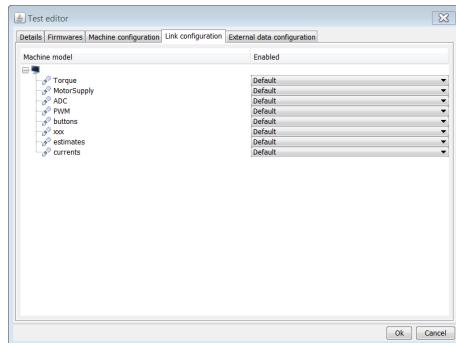

Figure 6.9: Click Create new Test to add a new Test in the Test Sequence.
- *Details*, , is shown in Figure 6.9;